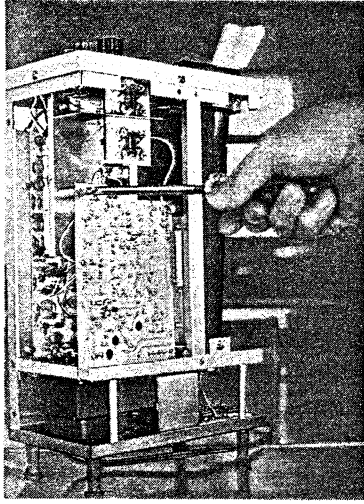

Fig. 5-6 Removing the PCB screw.
1. Remove the screw holding it in place, Fig. 5-6.